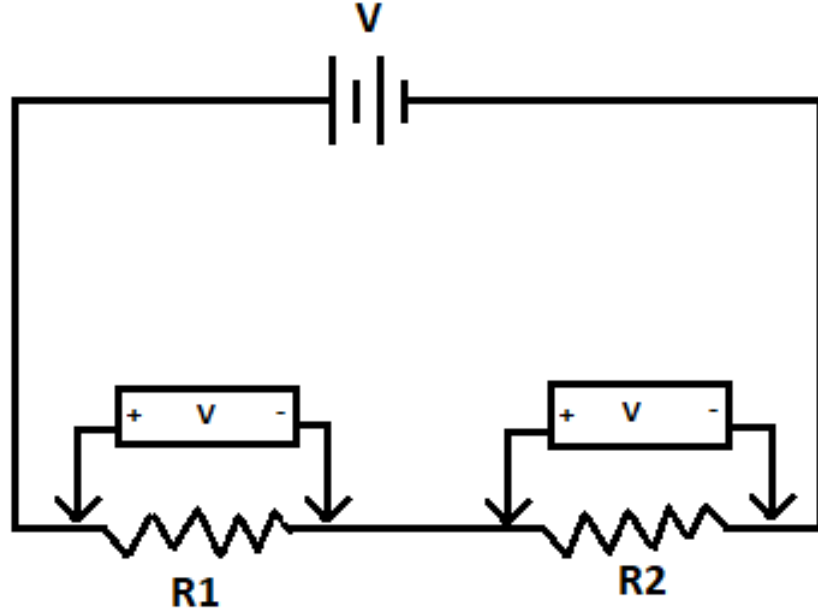

Figure 7: Circuit Diagram
- Make the connections as shown in figure 7.
- Note the voltmeter readings . This is the observed potential drop (V) across R_1 and R_2 for different values of R_1 and R_2 .